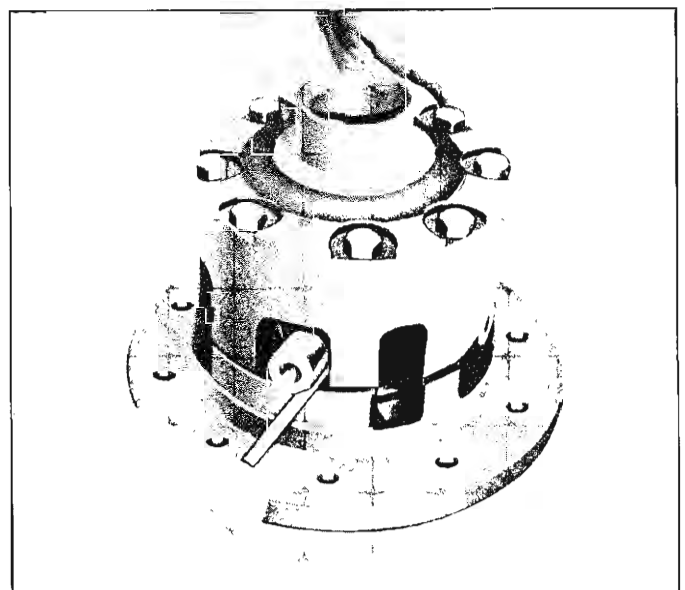

Fig. 44—Checking Pinion Mate Shaft Clearances
9. Check for metal to metal contact between surfaces of pinion mate shaft "V" and the cam ramps in the case to make sure there is no clearance (fig. 44). If clearance exists, check for worn parts.